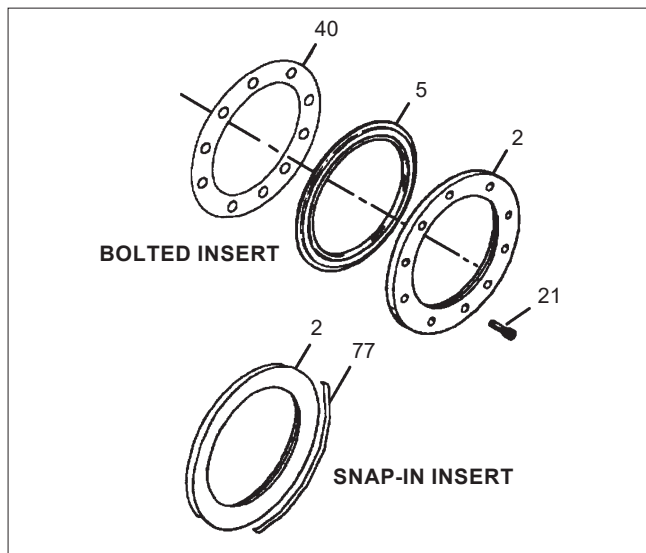
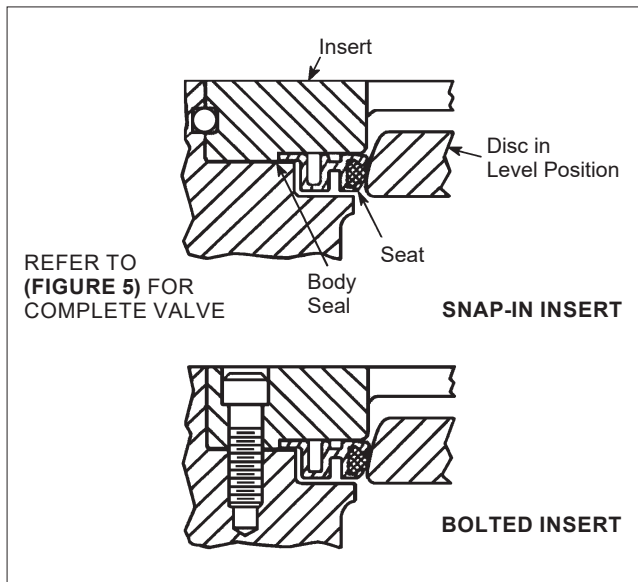

Figure 8.
Figure 9.
- B. **Snap-In Insert (See Figure 8):**
Place the insert spring (77) into the groove in the body, opposite the positive stop (See Figure 8). Lightly tap one end of the spring into the body groove. Be sure the spring is positioned snugly into the groove.
10. Verify that the disc is in the level position. Install new seat and insert (See Figure 9 & 10). For bolted inserts, install the insert screws, and tighten them uniformly. Torque values are given in (Table 1). Whenever possible, open the valve and retorquing the insert screws per (Table 2). Take care not to damage the sealing edge of the disc. Close the valve. For snap-in inserts, place the retaining spring into the groove in the body, opposite the positive stop (See Figure 8). The tips of the spring should be toward the insert side of the valve. Lightly tap one end of the spring into the body groove. Be sure the spring is positioned snugly into the groove. Lightly tap the other end of the spring into the groove. Make sure the tips of the spring are embedded into the body groove to prevent spring movement. With the seat assembled into the insert, and the disc slightly open, install the assembly into the body, such that it is angled into the body to engage the retaining spring. Once the retaining spring is engaged, "pop" the opposite side of the insert into the body by lightly tapping the insert with a block of wood and a hammer.